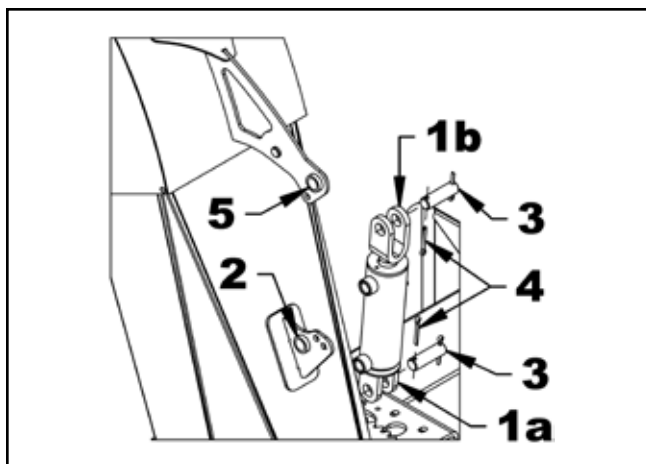

Figure 30. Attach Hydraulic Cylinder
2. Figure 30: Attach the cylinder base (1a) to the chute base (2) with the pin (3) provided with the cylinder and the cotter pin (4). Attach the cylinder rod end (1b) to the deflector (item 5) with the pin (item 3) provided with the cylinder and the cotter pin (item 4).